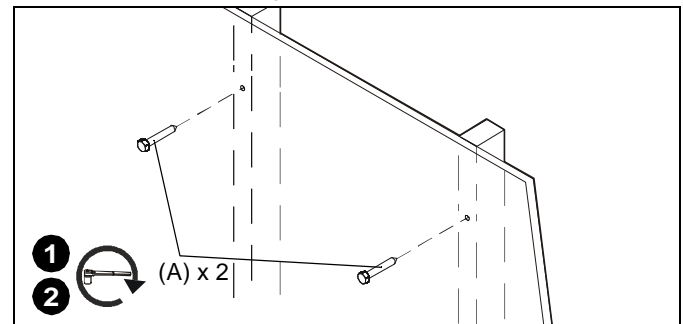

**Figure 23**
6. Insert 1/4-20 x 1-3/4" Phillips pan head screw (C) through 1/4" washer (D), corresponding mounting hole in product and into anchor (E), and tighten until flush against product. DO NOT over tighten! (See Figure 23)